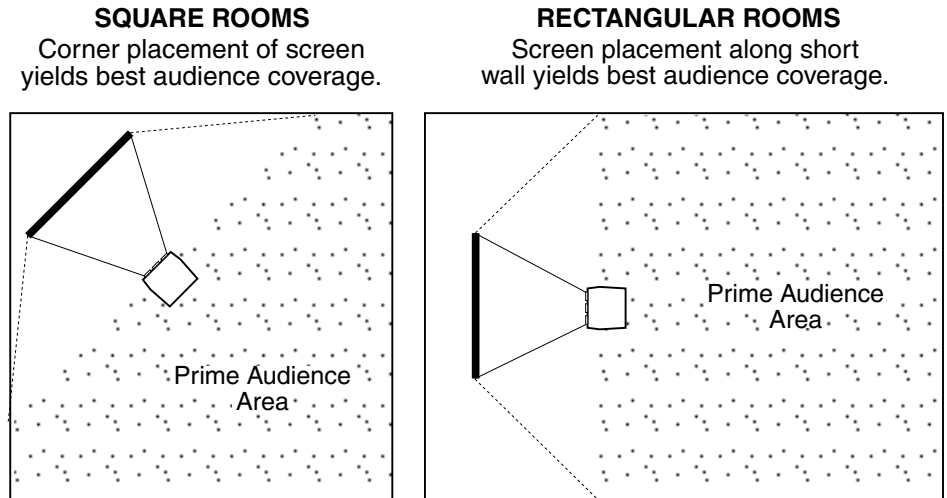

Figure 2-5. *Screen Locations for Maximum Audience Coverage*
- ❑ When laying out your projection room, consider positioning the projector and screen in a manner which will achieve maximum audience coverage and space efficiency. For example, placing the screen along the larger wall in a rectangular room will reduce audience coverage. Figure 2-5 shows two examples of how audience coverage is maximized.